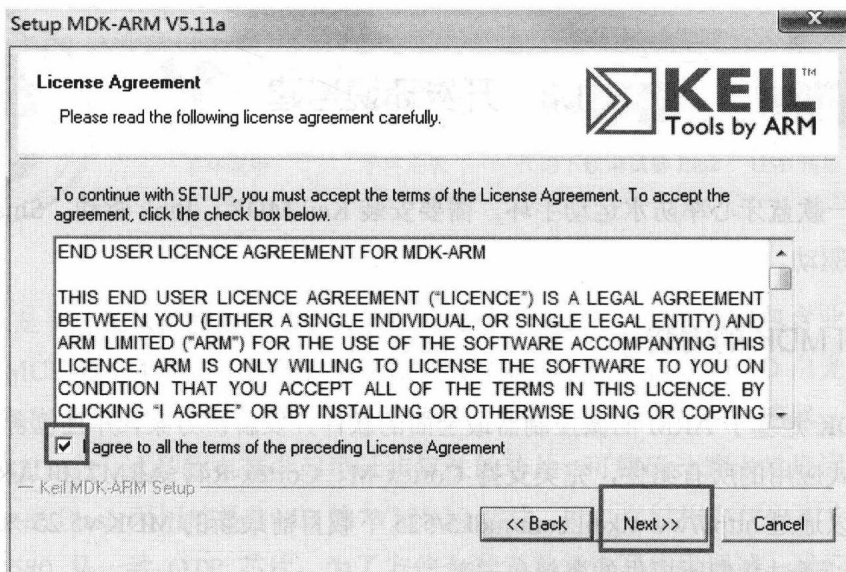

图 1.3-2
(2) 勾选 “I agree to all the terms of the preceding License Agreement”, 点击 “Next” 按钮, 如图 1.3-2 所示。